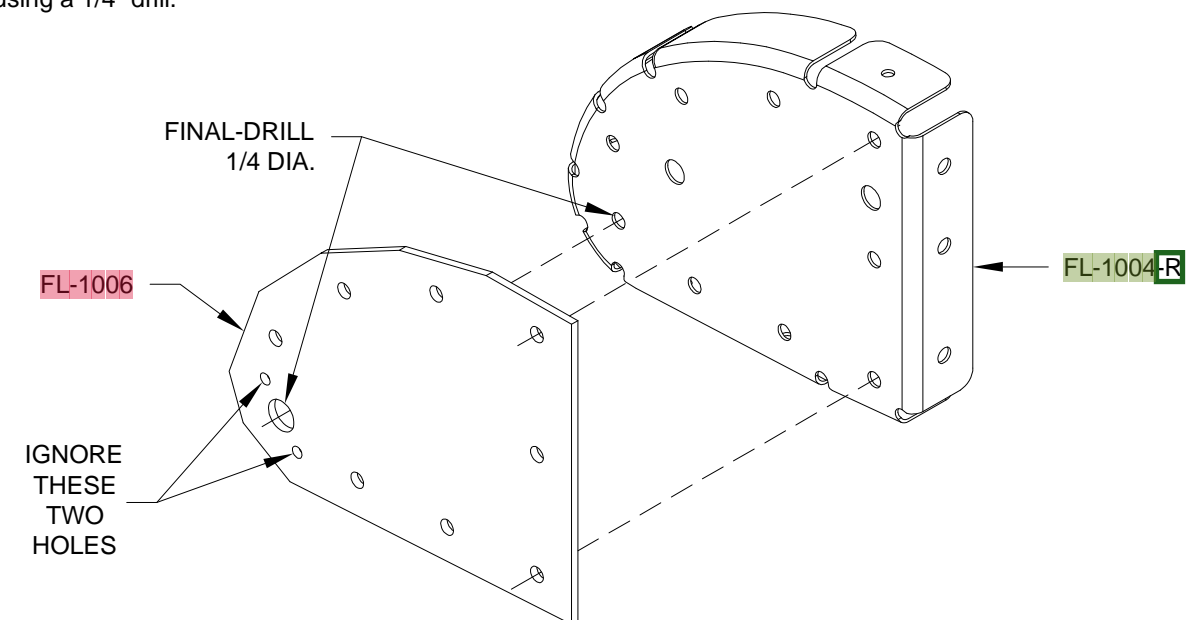

FIGURE 5: INBOARD ROD END RIB SUBASSEMBLY
Step 5: Make the inboard rod end rib subassembly by clecoing an **FL-1006** Doubler to an **FL-1004-R** Nose Rib as shown in Figure 5. Final-Drill #30 the 1/8" holes common to the two parts.